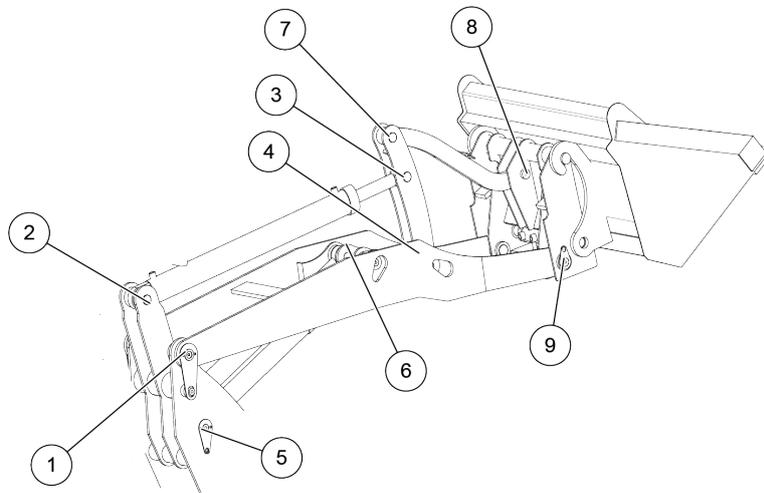
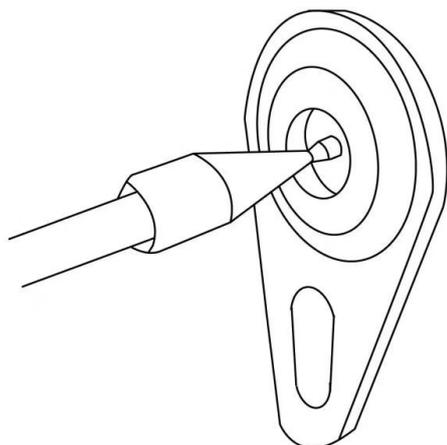

Figure 6-2 Working device area
Figure 6-4 Adding grease
The lubrication points in the working device area are shown in Figure 6-2.
Step 2: Add grease with a grease gun, as shown in Figure 6-4. The specific location and quantity of lubrication points are shown in Figure 6-2, 6-3 and Table 6-3;